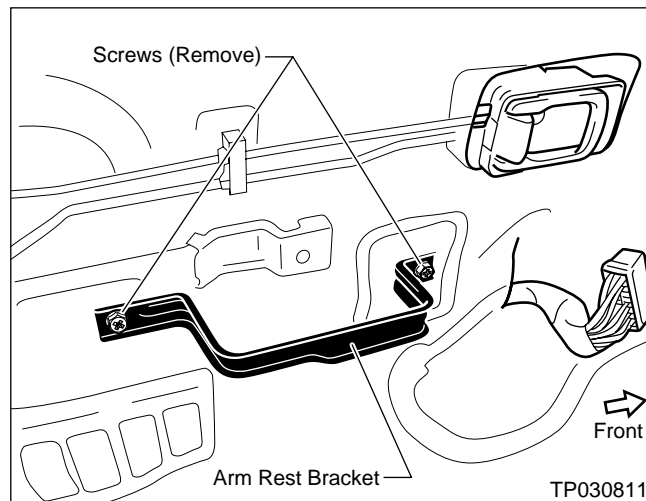

Figure 31
10. Take out two Screws and remove the Arm Rest Bracket (see Figure 31).